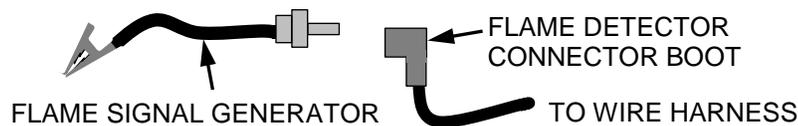

Figure 5-7: Connecting the Flame Signal Generator
- b) Push the **BACK** button three (3) times to return to the upper level menu.
- c) When the C-More Controller gets into the ignition phase, it will show **IGNITION TRIAL**. At that point attach the alligator clip (see Figure 5-7) to any bare metal surface or ground. The C-More Controller display should now show **FLAME PROVEN** and begin to ramp up to 100% fire rate. Note that no gas or flame is present in the boiler at this time.